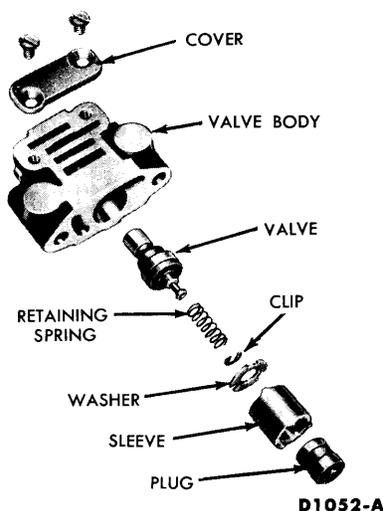

FIG. 22—Governor
2. Remove the governor valve body from the counterweight (Fig. 22).